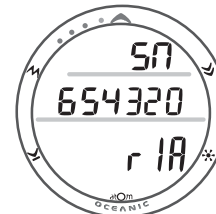

Fig. 67 - SERIAL NUMBER (of the ATOM)
- Depressing the A and S buttons simultaneously for 8 seconds while viewing the NORM SURF MAIN screen will access the ATOM's SERIAL NUMBER screen displaying (Fig. 67):